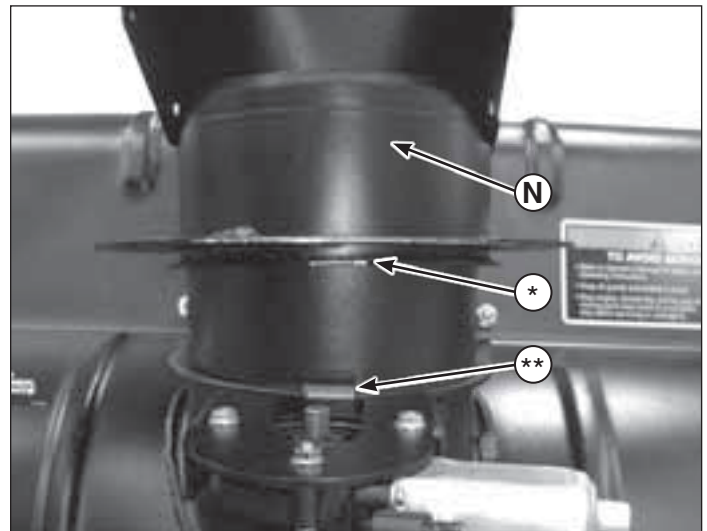

Figure 3
3. Align chute (N, Figure 3) notch (*) on chute with housing chute ring tab (**) and slide chute into place.